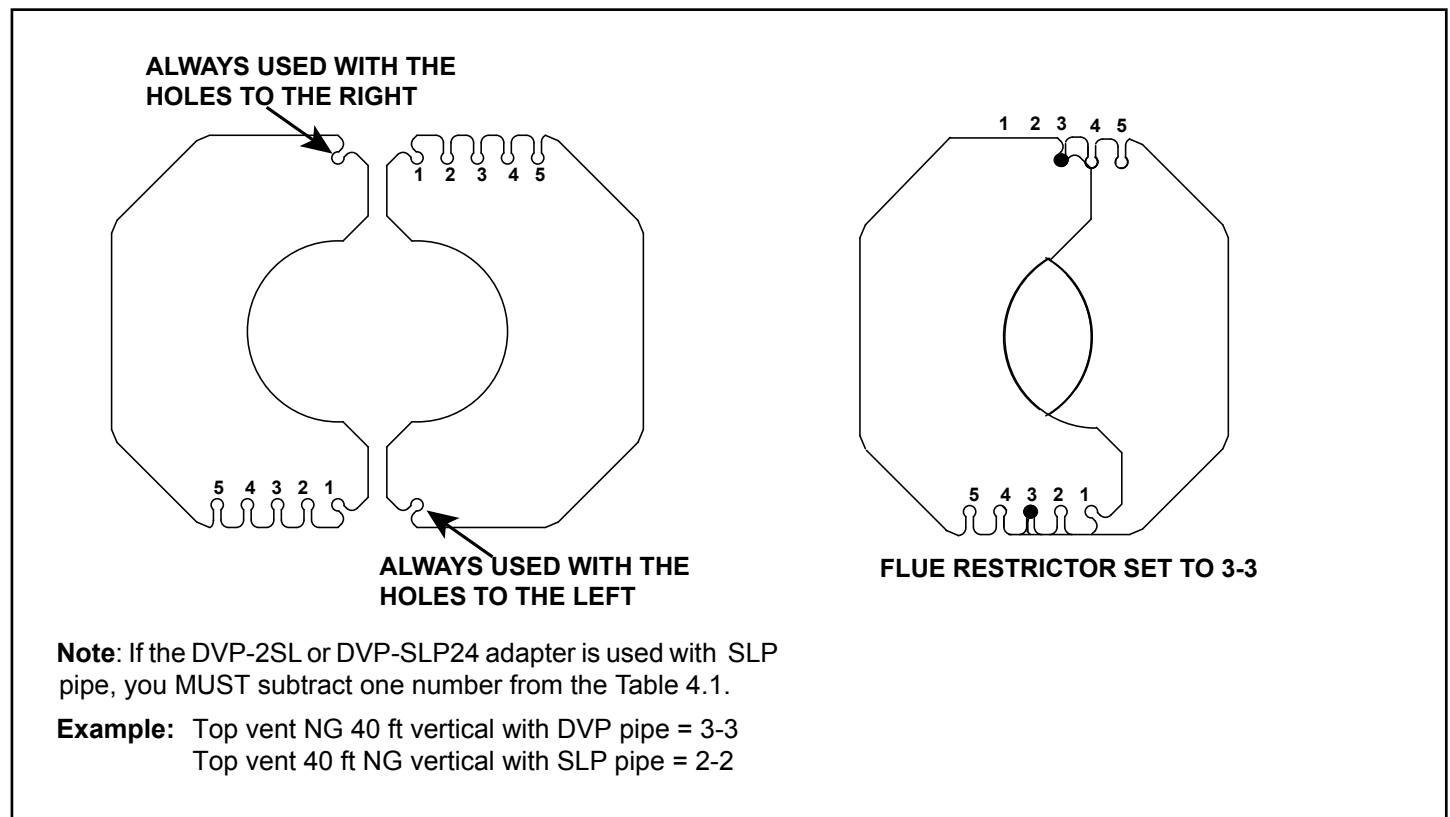

Figure 4.15 Setting the Flue Restrictor
2. Match the amount of vertical you have in the system with the chart to find the appropriate position to set the flue restrictor. See Figure 4.15 and Table 4.1.
3. Center the two flue restrictor pieces on the vent at the setting selected in step 3 and secure in place by using two self-tapping screws. See Figure 4.15.